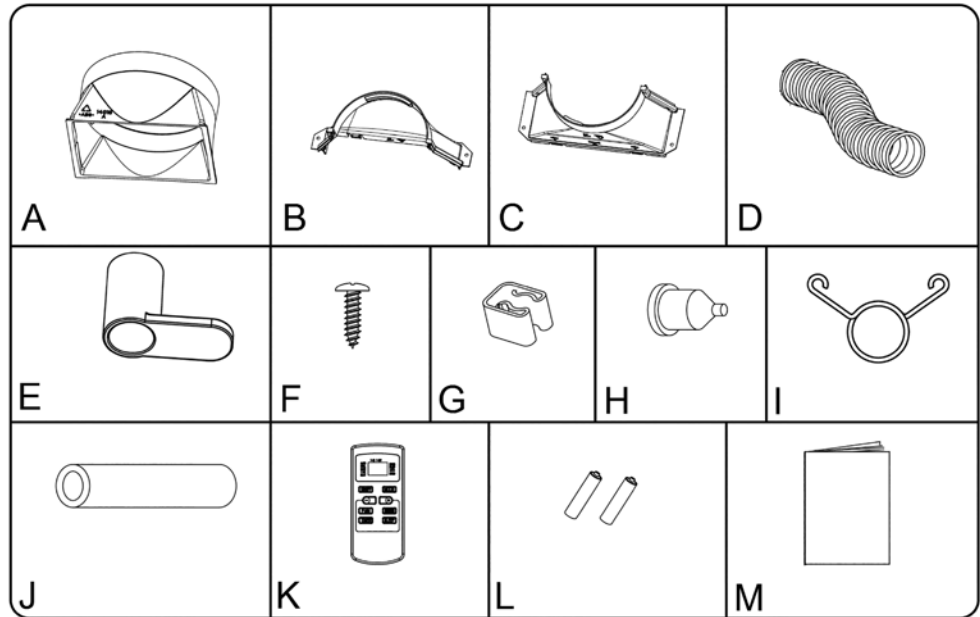
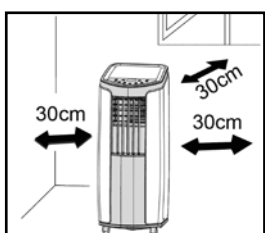
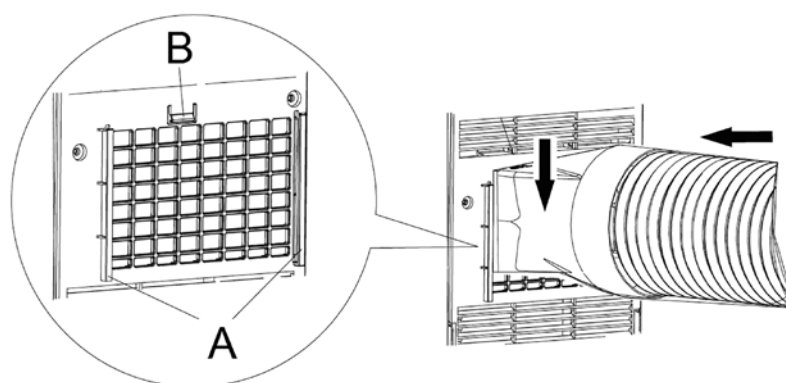

Fig. 1
Fig. 2
Fig. 4
- 3 Please keep a distance of 30 cm between the unit and the wall or other objects to ensure proper air circulation. See fig.2.
**4** Join the two connectors B and C (see fig. 1) by pushing them firmly together in the direction of the arrow (see fig. 2). Then screw connector B and C onto the air hose.
**6** Join the air hose with connector A (see fig. 1) to the air conditioner by sliding it down through the guides A at the rear of the unit passed clasp B (see fig. 4).